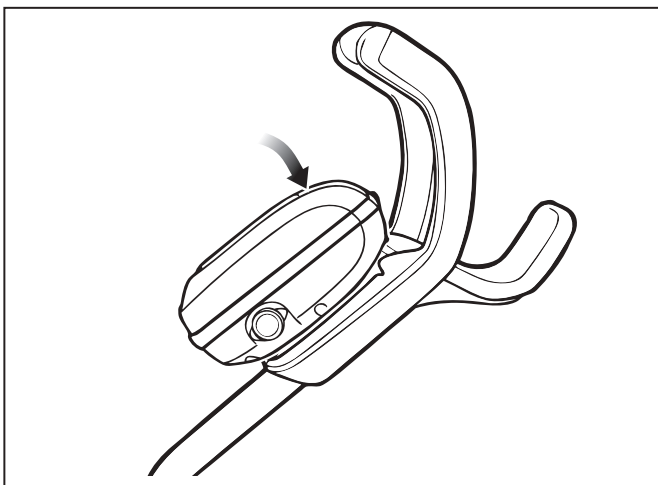

Figure 2. Attach the Control Box onto Caddy
2. Press control box onto the caddy hook until it snaps and locks into position (Figure 2).